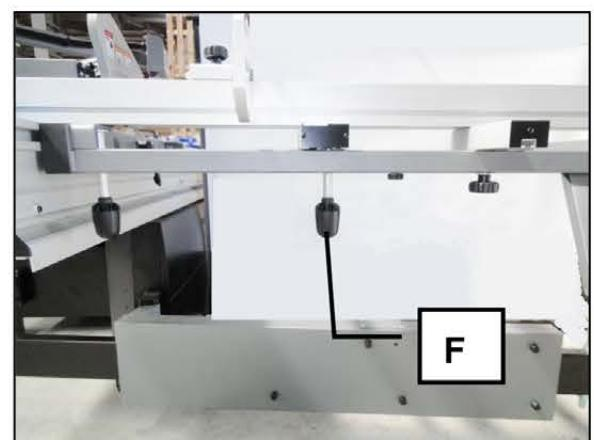

Figure 4-7.4b
1. Loosen knob D(Fig. 4-7.4a)& F(Fig. 4-7.4b) to change position of crosscut fence
3. After adjust it to your desired angle, tighten the knob F(Fig. 4-7.4b).